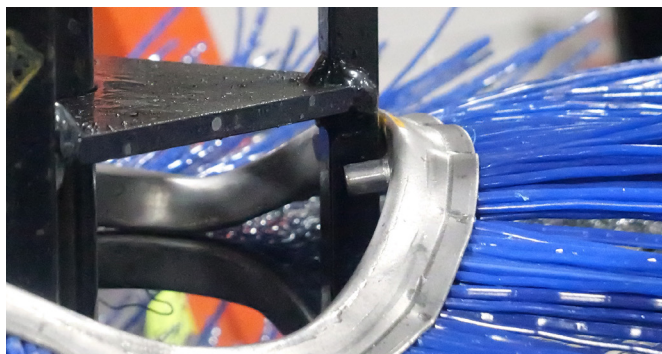

Figure 3
2. Install a new wafer by making sure the two (2) pins hug one of the drum's bar. See Figure 3.